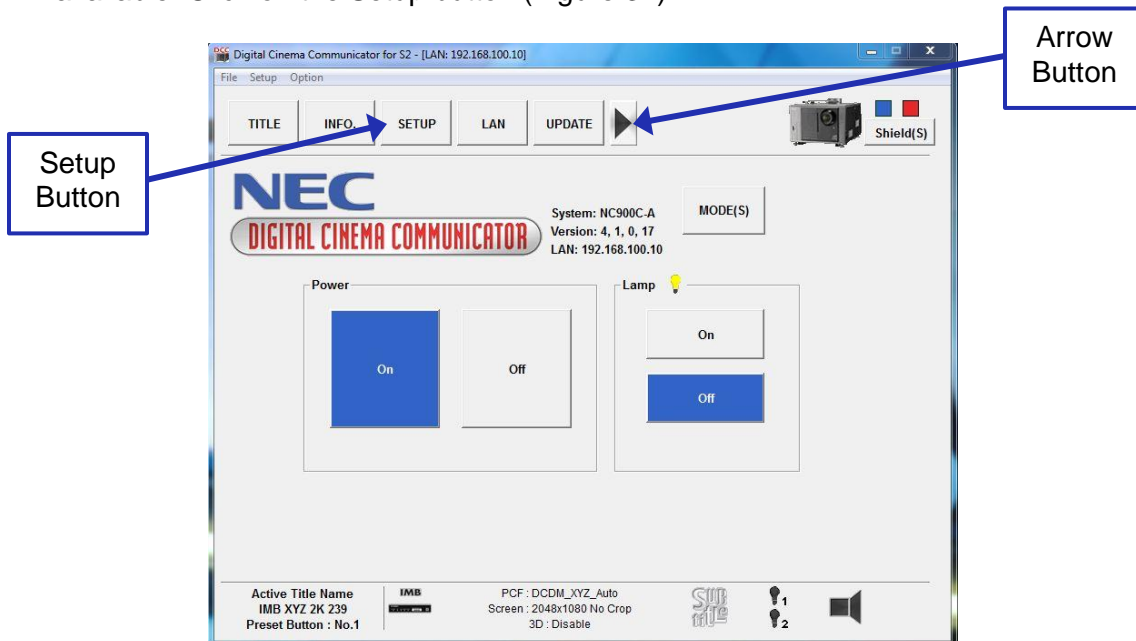

Figure 34: Setup Button
- Using the Arrow button in the window that appears, scroll until the Setup button is available. Click on the Setup button (Figure 34).